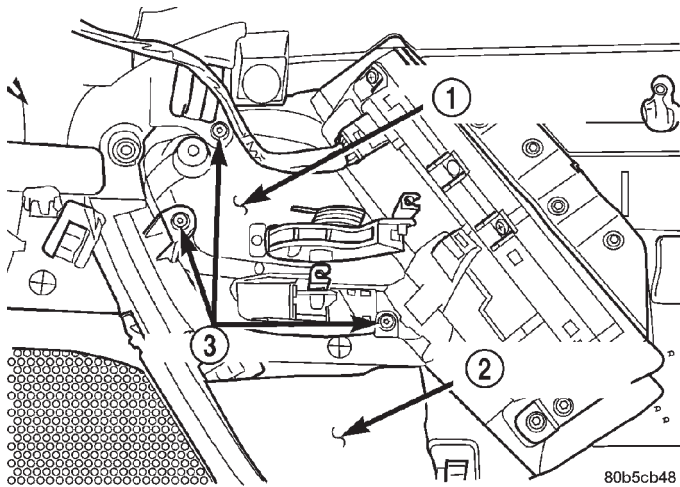

Fig. 9 Front Door Inside Handle Actuator
- (1) Remove door trim panel, refer to (Refer to 23 - BODY/DOOR - FRONT/TRIM PANEL - REMOVAL).
- (2) Disconnect latch and lock rods from inside handle actuator.
- (3) Remove screws attaching inside handle actuator to trim panel (Fig. 9).
- (4) Separate inside handle actuator from trim panel.
- (1) Position inside handle actuator in trim panel.
- (2) Install screws attaching inside handle actuator to trim panel (Fig. 9).
- (3) Connect latch and lock rods to inside handle actuator.
- (4) Install door trim panel, refer to (Refer to 23 - BODY/DOOR - FRONT/TRIM PANEL - INSTALLATION).